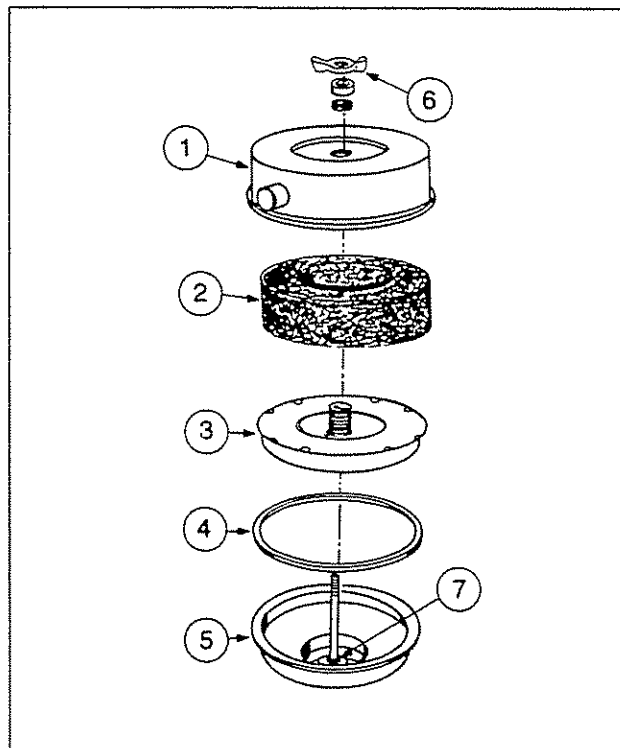

Fig. 2-24, (V51909). Crankcase breather — mesh element with vapor barrier
1. Remove the wing nut (6, Fig. 2-24), flatwasher and rubber washer securing the cover (1), to the breather body (5).
2. Lift off the cover and lift out the breather element (2), vapor element (3), and gasket (4).
5. Install a cleaned or new breather element (2, Fig. 2-24) and cleaned vapor element (3) to the breather body (5).
6. Install the rubber gasket (4) in the cover (1); position the cover assembly to the body (5).